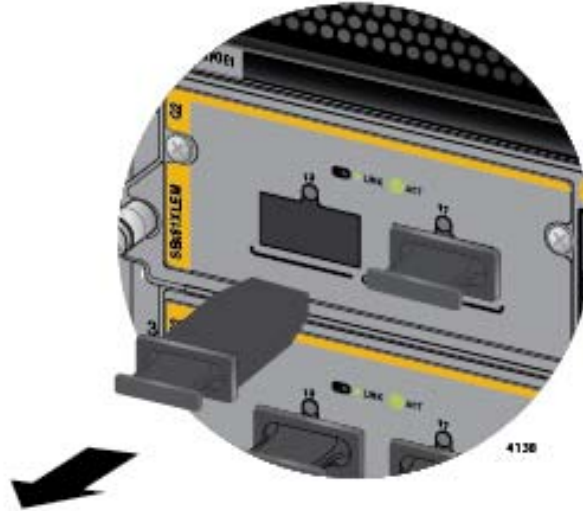

Figure 102. Removing the Dust Cover from a Slot on the AT-SBx81XLEM/Q2 Expansion Module
1. Remove the dust cover from a slot on the AT-SBx81XLEM/Q2 Expansion Module. Refer to Figure 102.
1. Remove the dust cover from a slot on the AT-SBx81XLEM/Q2 Expansion Module. Refer to Figure 102 on page 164.